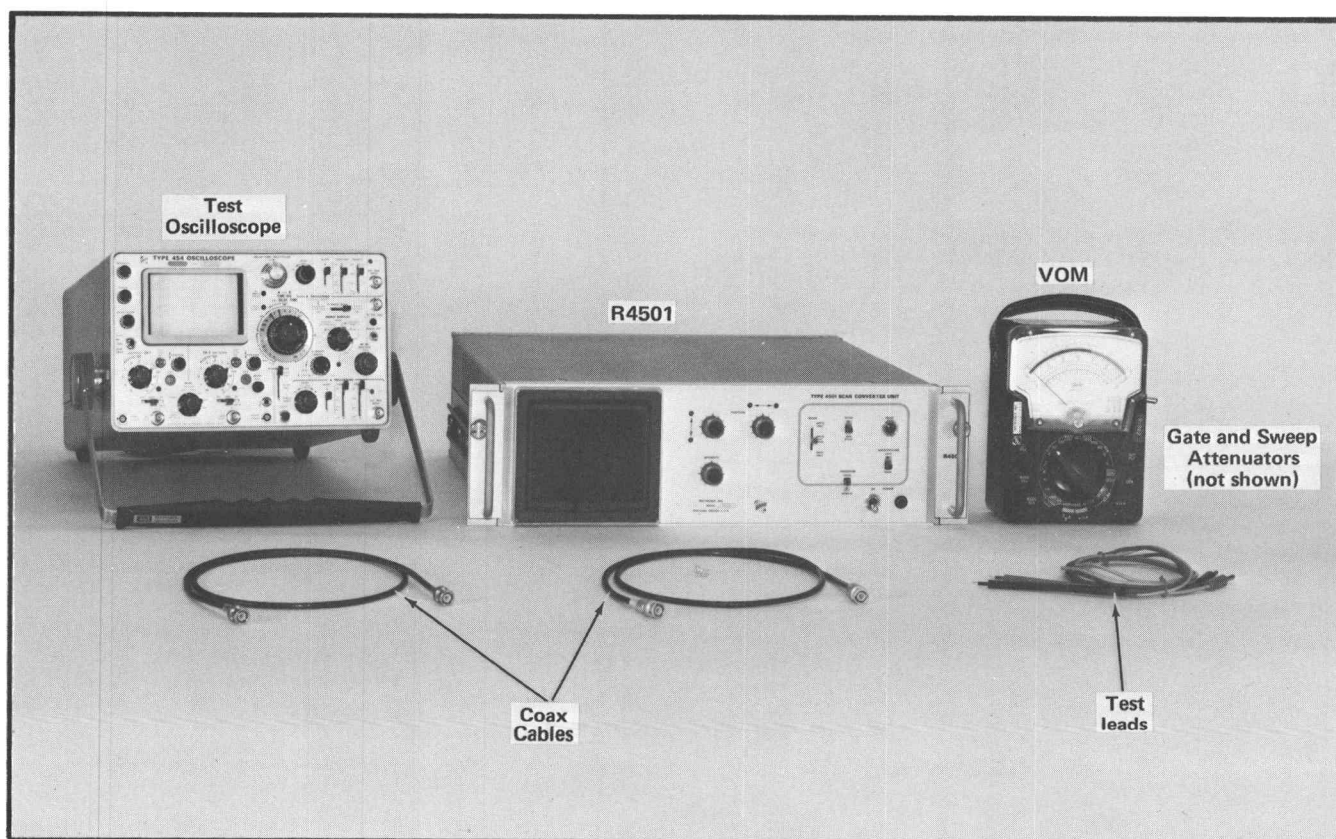

Fig. 5-7. Test equipment required for Storage calibration.
b. Test equipment setup for the following steps is shown in Fig. 5-7.